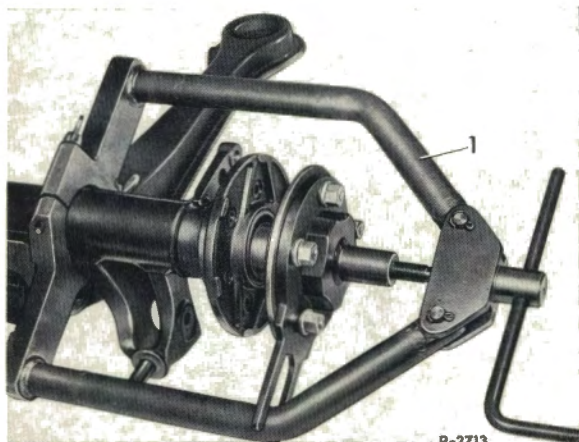

Fig. 35-3a/4
5. Attach Fixture 111 589 12 33 00 to the flange of the rear axle shaft and to the axle tube and pull the rear axle shaft out of the axle tube (Fig. 35-3a/4).